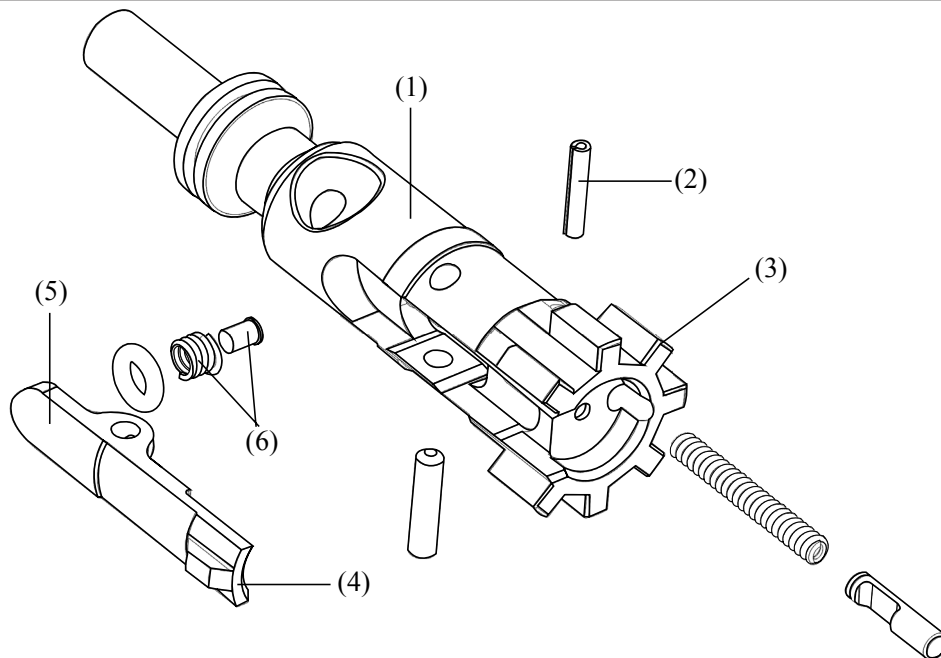

Figure 2.19
1. Push out extractor pin (Fig. 2.19, 2) and remove extractor (5) and extractor spring assembly (6) as a unit.
2. If required, twist extractor spring assembly (6) counterclockwise to remove from extractor (5).
Clean major contact points and lugs (Fig. 2.19, 3) of carbon deposits. Extractor and spring assembly do not need to be removed for routine cleaning and maintenance. Refer to Section III, 2-7 for preventative maintenance checks and services interval instructions.
1. Inspect for cracks or damage, especially around locking lugs (Fig. 2.19, 3). Replace any components that are damaged, cracked or have excessive wear.
2. Inspect the extractor (5), extractor spring assembly (6), and extractor pin (2) for cracks, breaks, chips, and other damage. Pay close attention to cartridge extractor lip (4). If damaged, replace.
A small amount of lubrication is recommended on the bearing surfaces (both rear of the bolt and band that contacts the carrier) of the bolt (Fig. 2.19, 1).
1. If removed, insert large end of extractor spring assembly (Fig. 2.19, 6) into extractor (5) and seat by pushing and turning clockwise.
2. Position extractor (5) and extractor spring assembly (6) on bolt body (1).
3. Compress extractor spring assembly (6) and extractor (5) to align holes.
4. Install extractor pin (2) by hand.